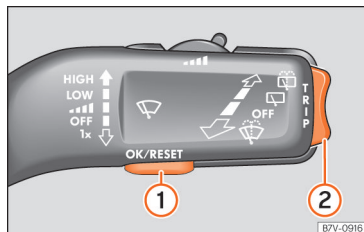

Fig. 82 Wiper lever: buttons for using the instrument panel menus.
As long as a priority 1 » page 76 warning is active, it will not be possible to access any menu. Some warnings can be confirmed and hidden with the button » Fig. 82 ①.